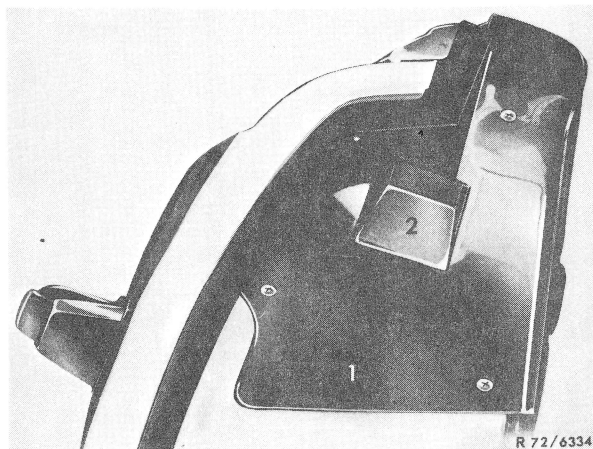

Fig. 1
- 1 Remove screws on molding (1) (Fig. 1).